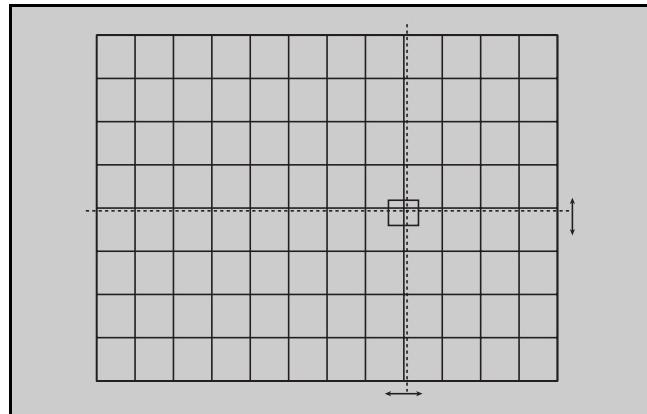

Figure 44. Line mode adjustment
Line mode allows the displacement of each single line both horizontally and vertically. See Figure 44.
24. Press "TV/VIDEO" repeatedly to select line mode. See Figure 44.
32. Press "TV/VIDEO" repeatedly to select line mode. See Figure 44.